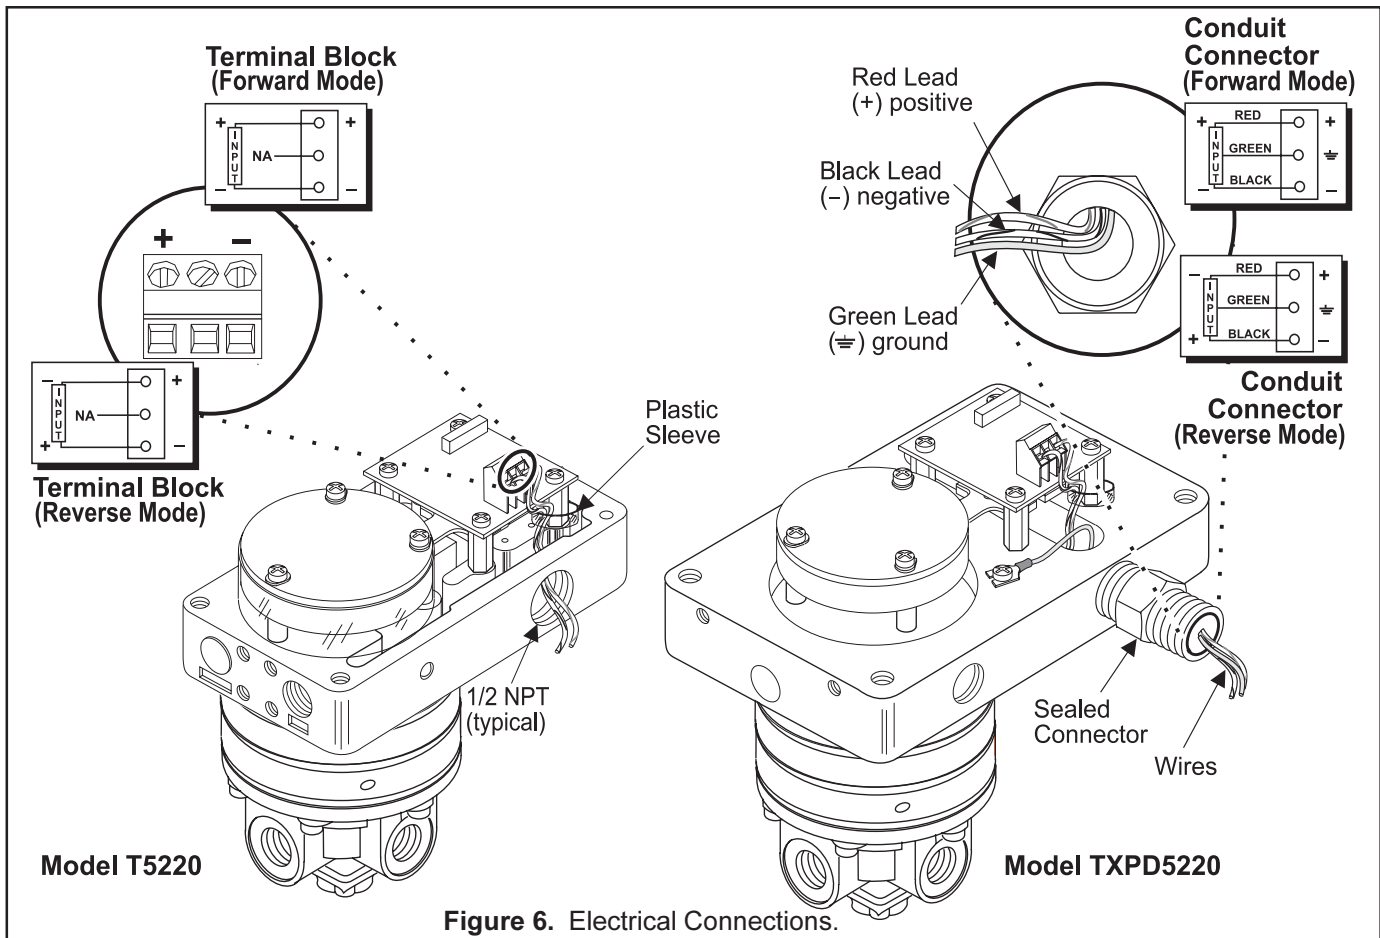

Figure 6. Electrical Connections.
1. Connect the input signal to the transducer as shown in Figure 6. "Electrical Connections."
5. Connect the input signal to the transducer as shown in Figure 6. "Electrical Connections."